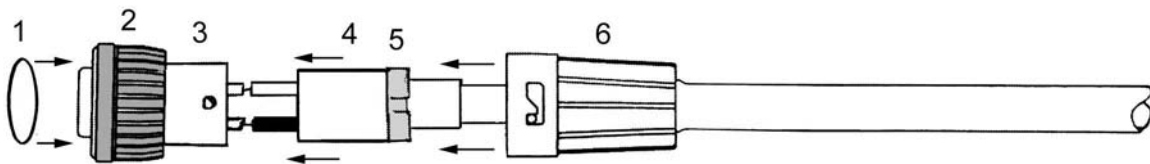

Figure A3: Proper Assembly of Connector onto Cable
10. Slide grommet with ring into backshell and twist lock backshell onto main connector body (**Figure A3**).
11. Slide O-ring (1) over contact end of the connector.